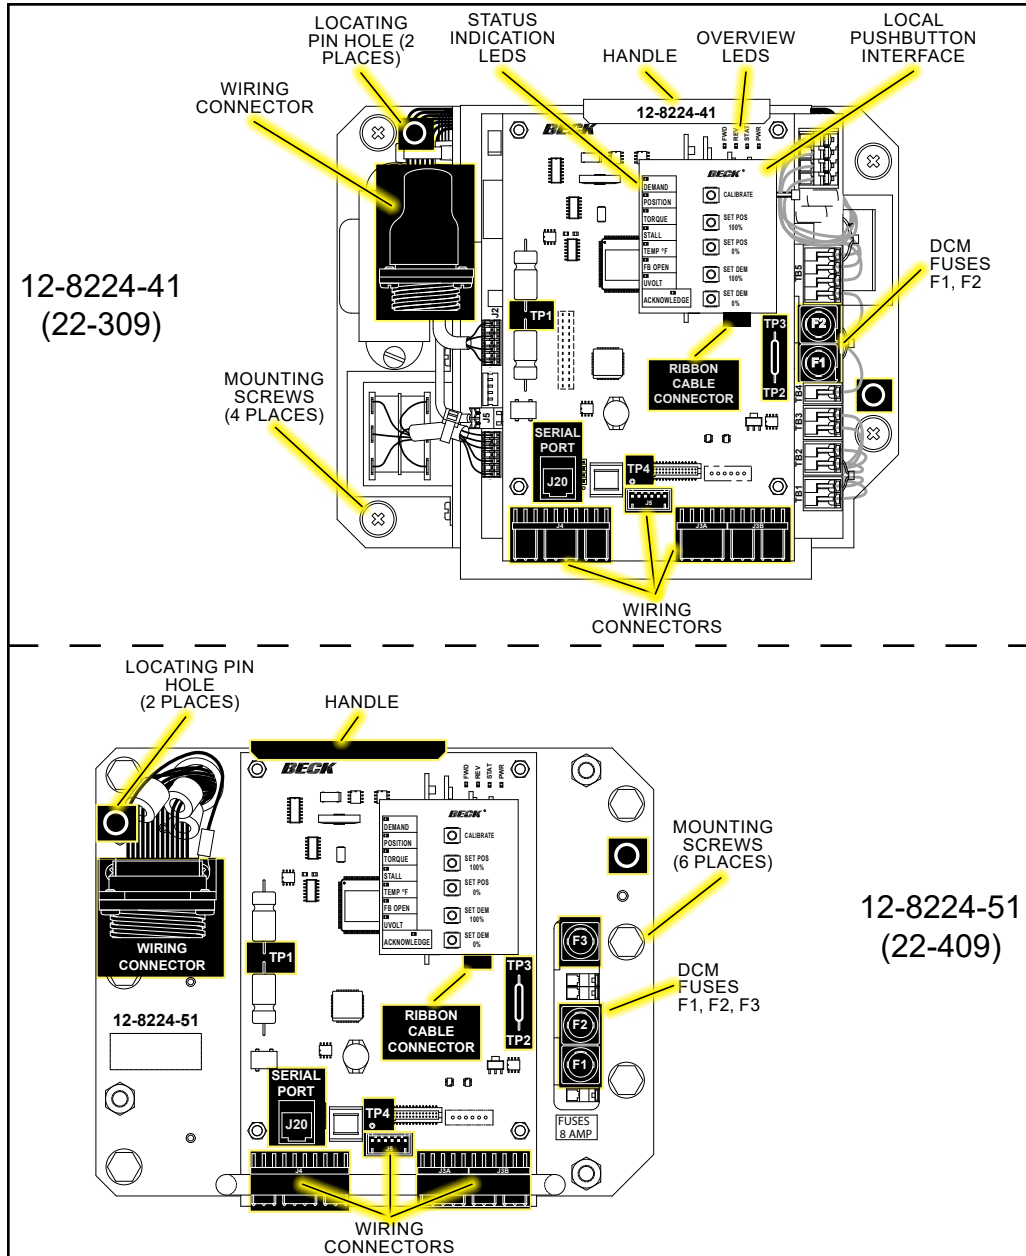

Figure 1
There are two fuses located on the 22-309 DCM assembly (three on older assemblies) and three fuses located on the 22-409 DCM assembly (see Figure 1). The DCM assembly is located in the Electronics Compartment. To remove the Electronics Compartment cover, loosen the (4) captive 5/16-18 x 1.75" mounting screws.
3. Disconnect the (5) wiring connectors shown in Figure 1.
4. Loosen the (6) captive mounting screws with a 7/16" hex socket wrench.